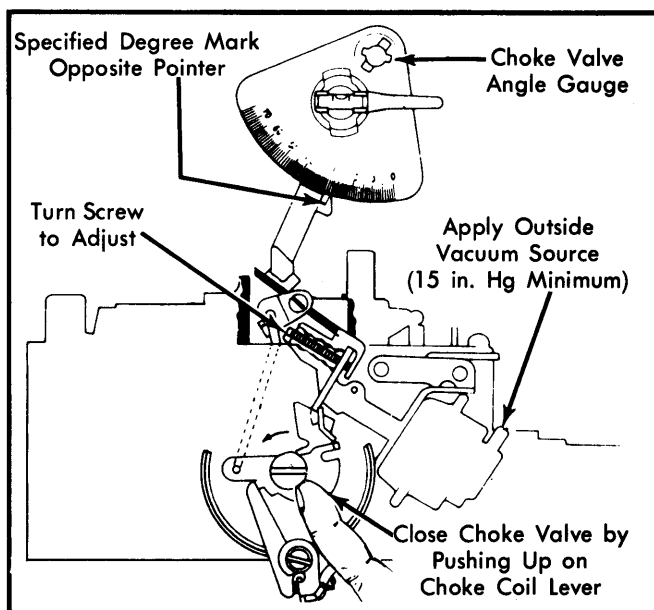

Fig. 6 Adjusting Primary Vacuum Break
- 1) Using an outside vacuum source of at least 15 in. Hg, seat primary vacuum break diaphragm. See Fig. 6.